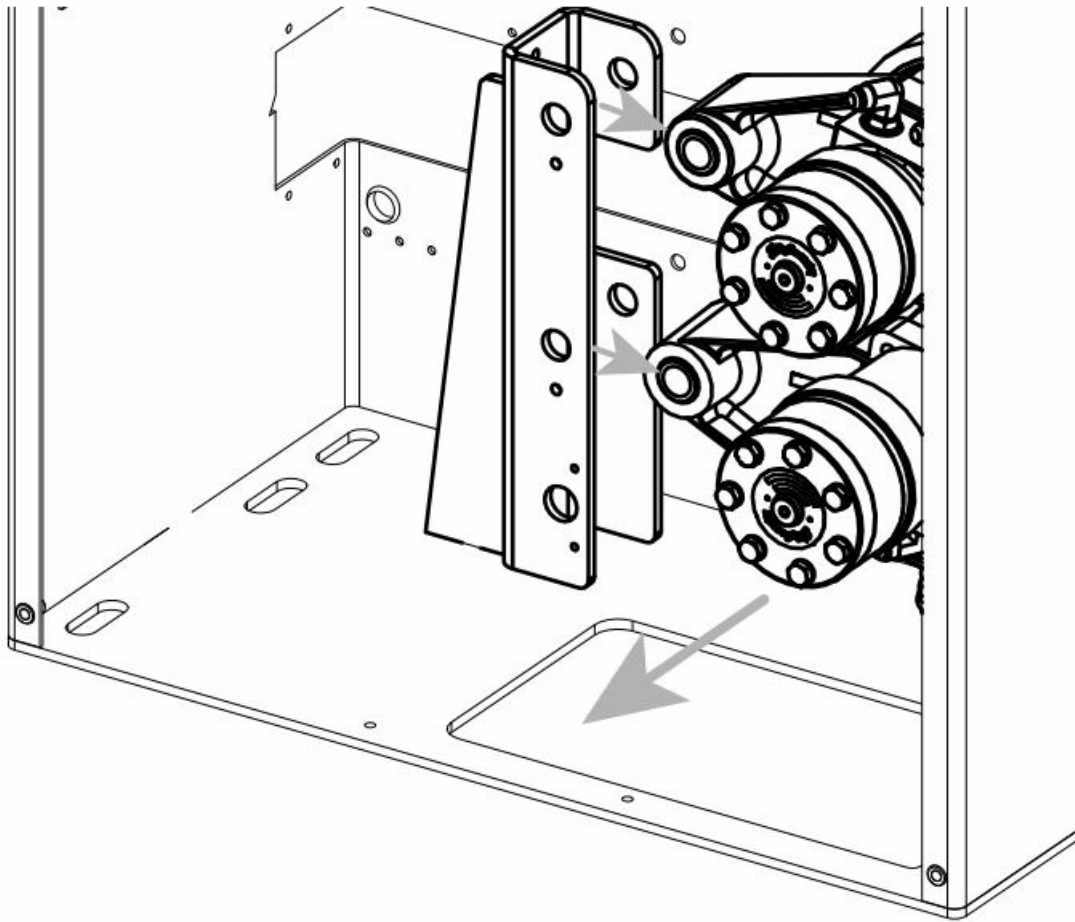

Figure 6. Remove Pivot Arm Assembly
9. Slide the two pivot arms and motors out as a complete unit (Figure 6).